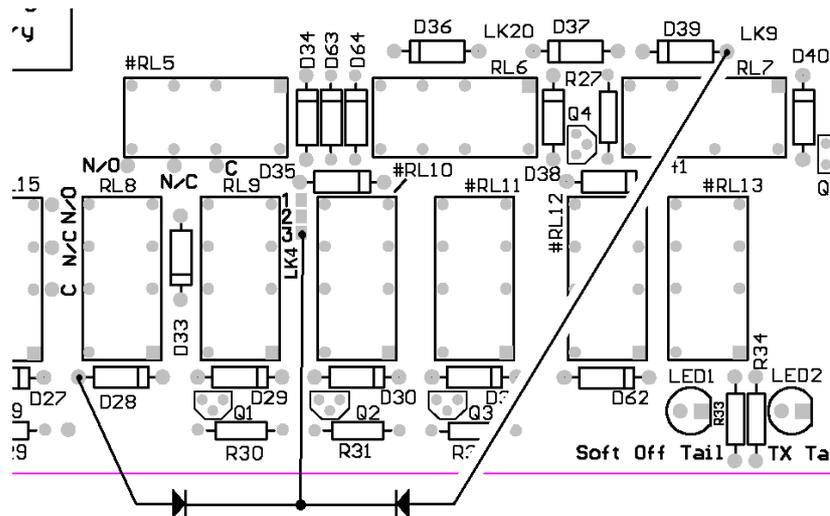

Fig 6
1. Add a diode to the top of the A800-SIM PCB, cathode to link LK4 pad 3 and the anode to D28 anode. Refer to Fig. 6. Adding this diode makes the splitting relay #RL10 control the relay RL8. When #RL10 is inactive (system un-split) it pulls relay RL8 on permanently via the diode. While relay RL8 is on the SIM TX Tail circuits are disconnected from the PTT Outputs.
2. Add a diode to the top of the A800-SIM PCB, cathode to link LK4 pad 3 and anode to D39 anode. Refer to Fig. 6. Adding this diode makes the splitting relay #RL10 control the voting pulse timer reset line. When #RL10 is inactive (system un-split) its normally closed contact pulls the voting pulse timer reset line permanently low via the diode. This prevents the vote pulse timer from generating voting pulses.